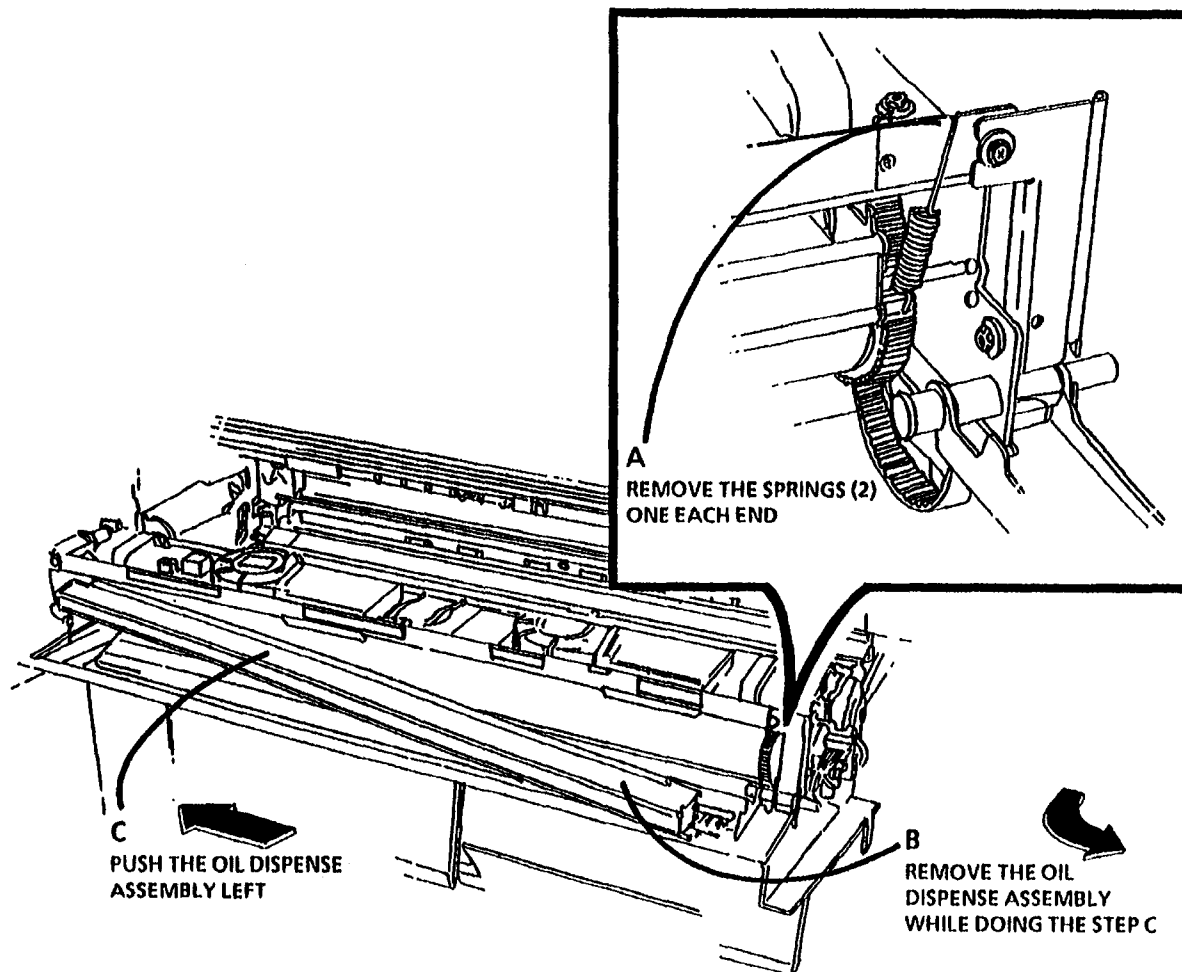

Figure 1. Remove the Oil Dispense Assembly
4. (Figure 1): Remove the Oil Dispense Assembly.